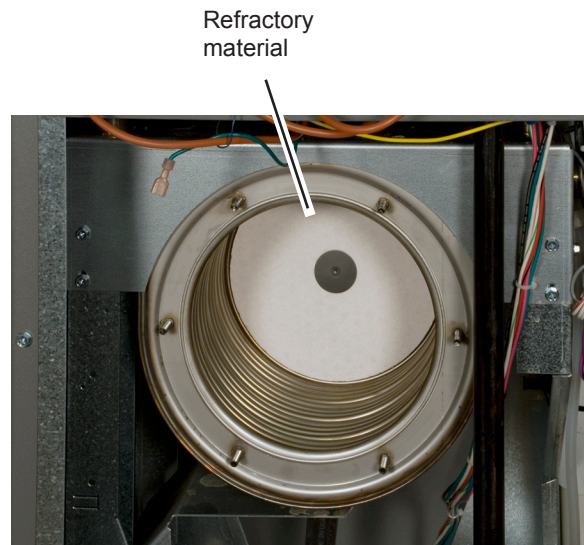
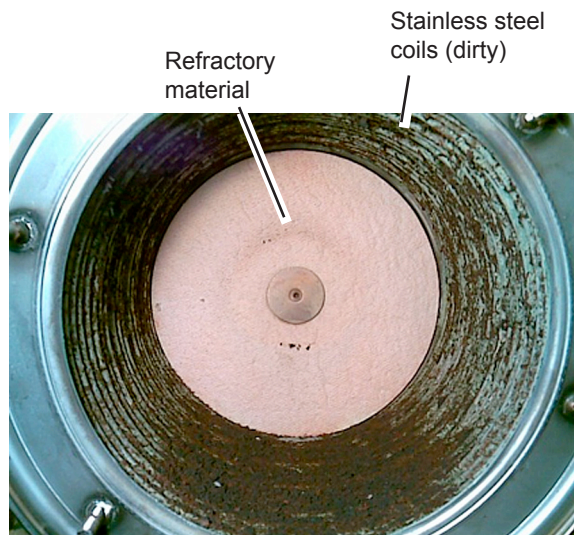

Fig. C5-11 - Inside of heat exchanger (new unit)
Fig. C5-12 - Dirty heat exchanger
2. Figure C5-11 shows the inside of the heat exchanger.
The heat exchanger in Fig. C5-11 is new, so it is clean. Figure C5-12 is a photo of a dirty heat exchanger. Normally you will find a heat exchanger that looks like this. However, sometimes a heat exchanger can be really dirty, as shown in Fig. C5-13.